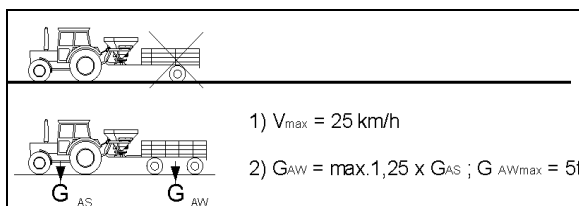

Fig. 46
6. Rigid rollers (Fig. 46/1) at rear
- o Mount and secure with safety splint (Fig. 46/2) in the central bore
When installing the rigid rollers ensure that the pin (Fig. 46/3) goes through the bore of the frame, thus holding the rollers in longitudinal direction.